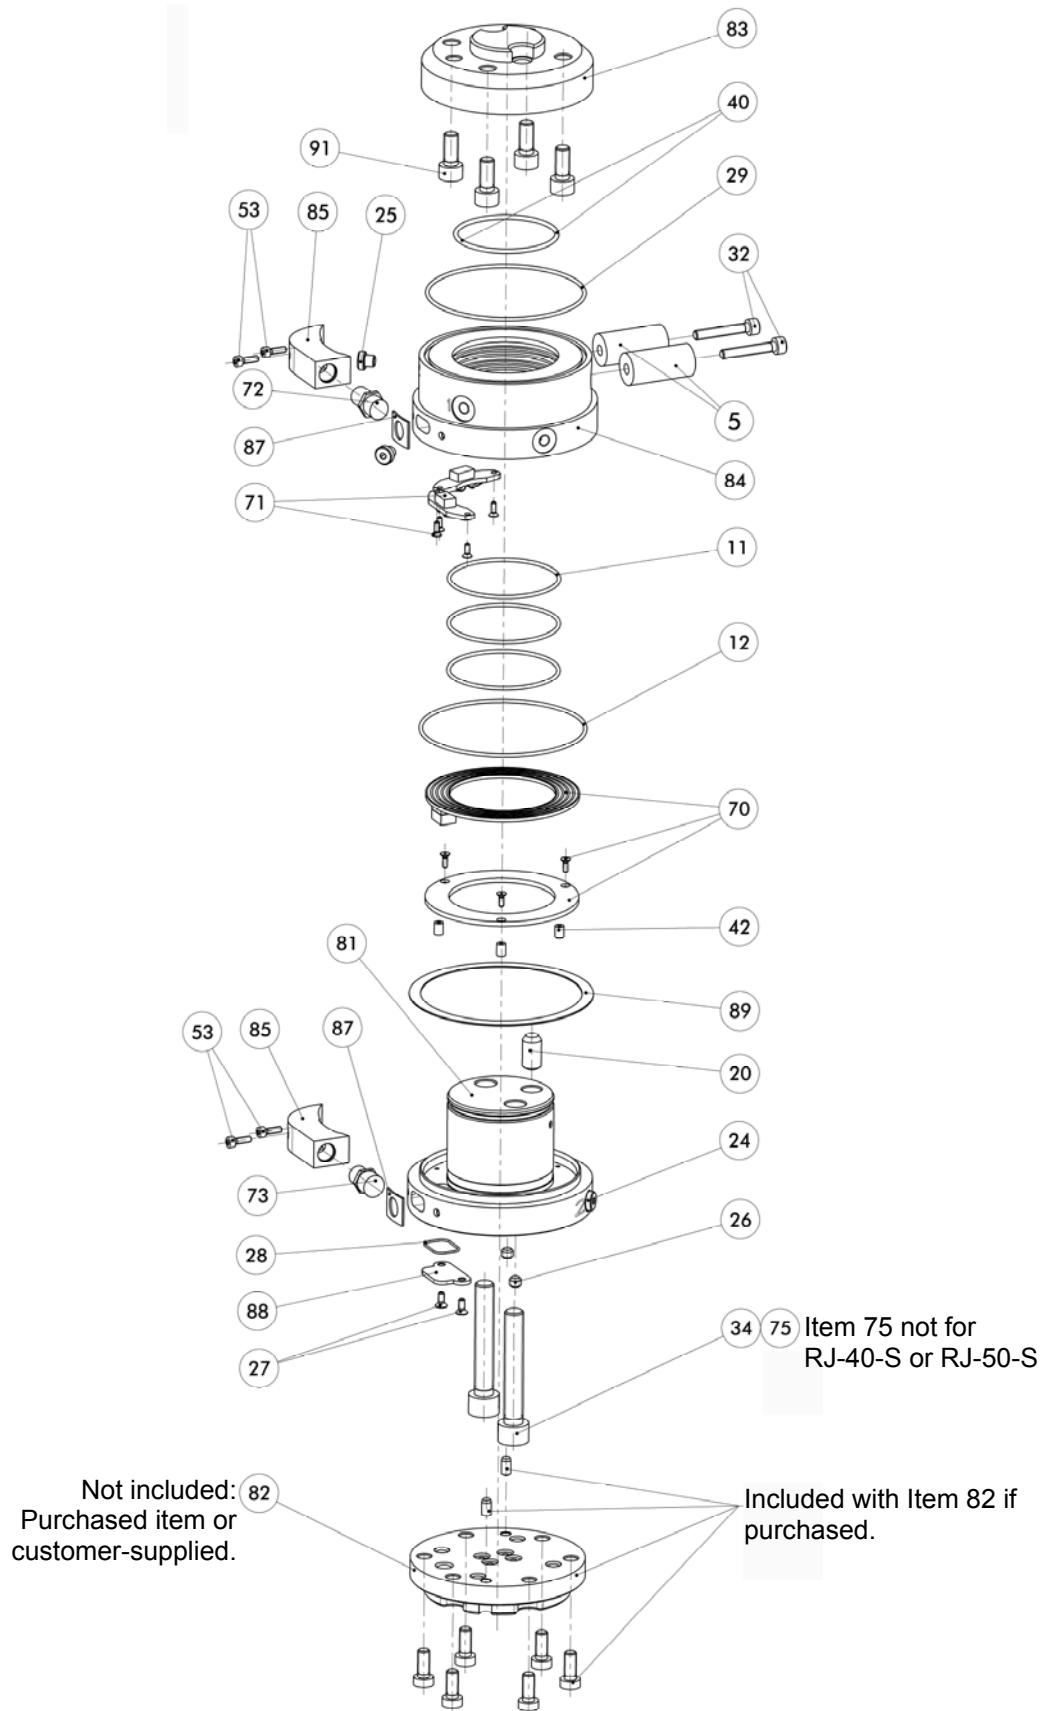

Figure 5.1—RJ 31-S, 40-S, and 50-S
4. Remove the screws completely (Items 30, 31, 34, or 75 depending on the model—See Figures 5.1, 5.2, and 5.3).